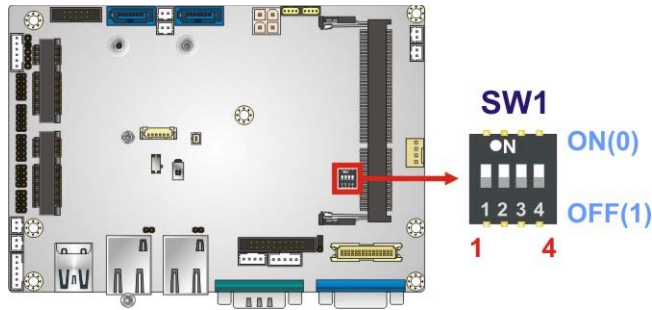

Figure 4-14: LVDS Panel Resolution Selection Switch Location
- Jumper Location:** See Figure 4-14